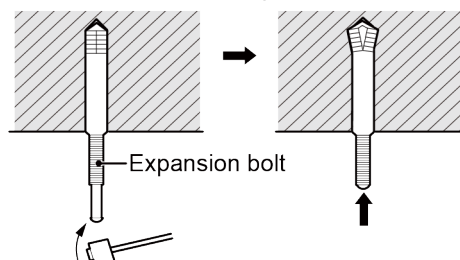

Fig.4.1.4
2) Insert the M10 expansion bolt into the hole and then knock the nail into the bolt, as shown in Fig.4.1.4, and then remove the paper pattern.